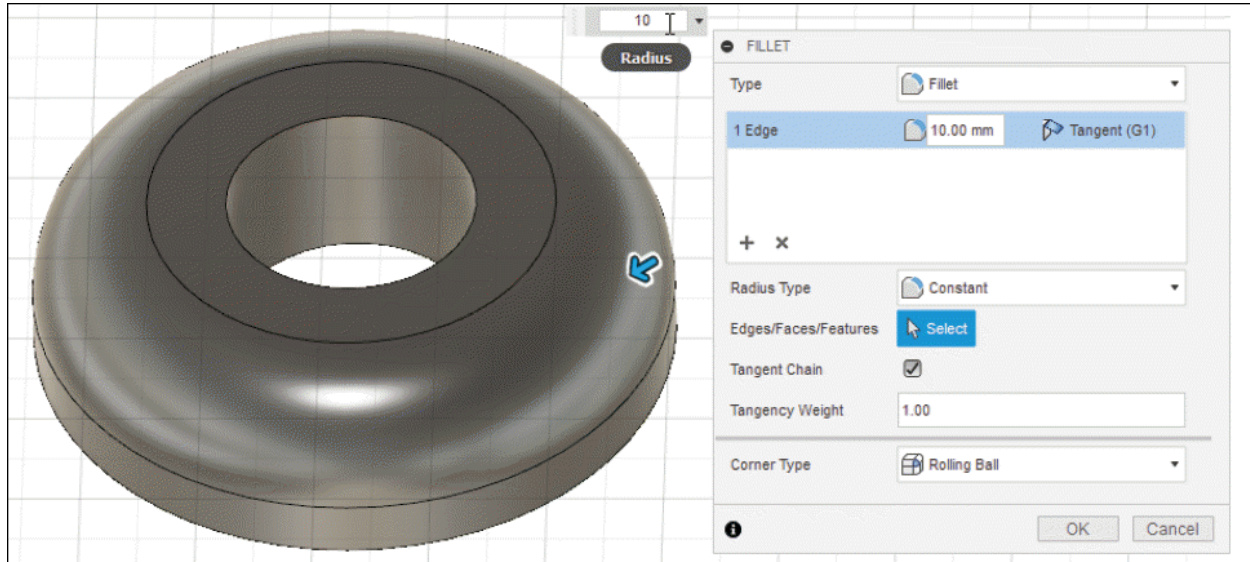

Figure-10. Preview of constant radius type
- Click in the **Radius** edit box of **FILLET** dialog box and enter **10** as the radius of fillet. You can also move the drag-handle from canvas screen to set the radius of fillet; refer to Figure-10.